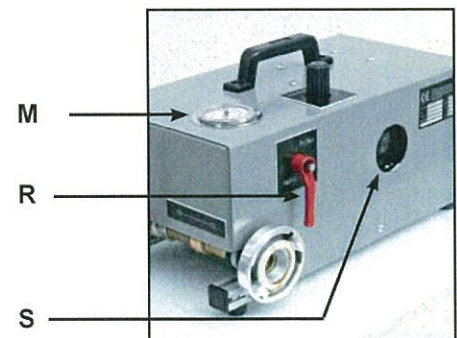

Fig. 3
*Fig. 3: If several fire extinguishers of the same type have to be serviced, two fire extinguishers can be handled simultaneously. While one fire extinguishing container is being emptied with the suction pipe, a second can be filled with the purified fire extinguishing powder under the storage tank at the same time.*